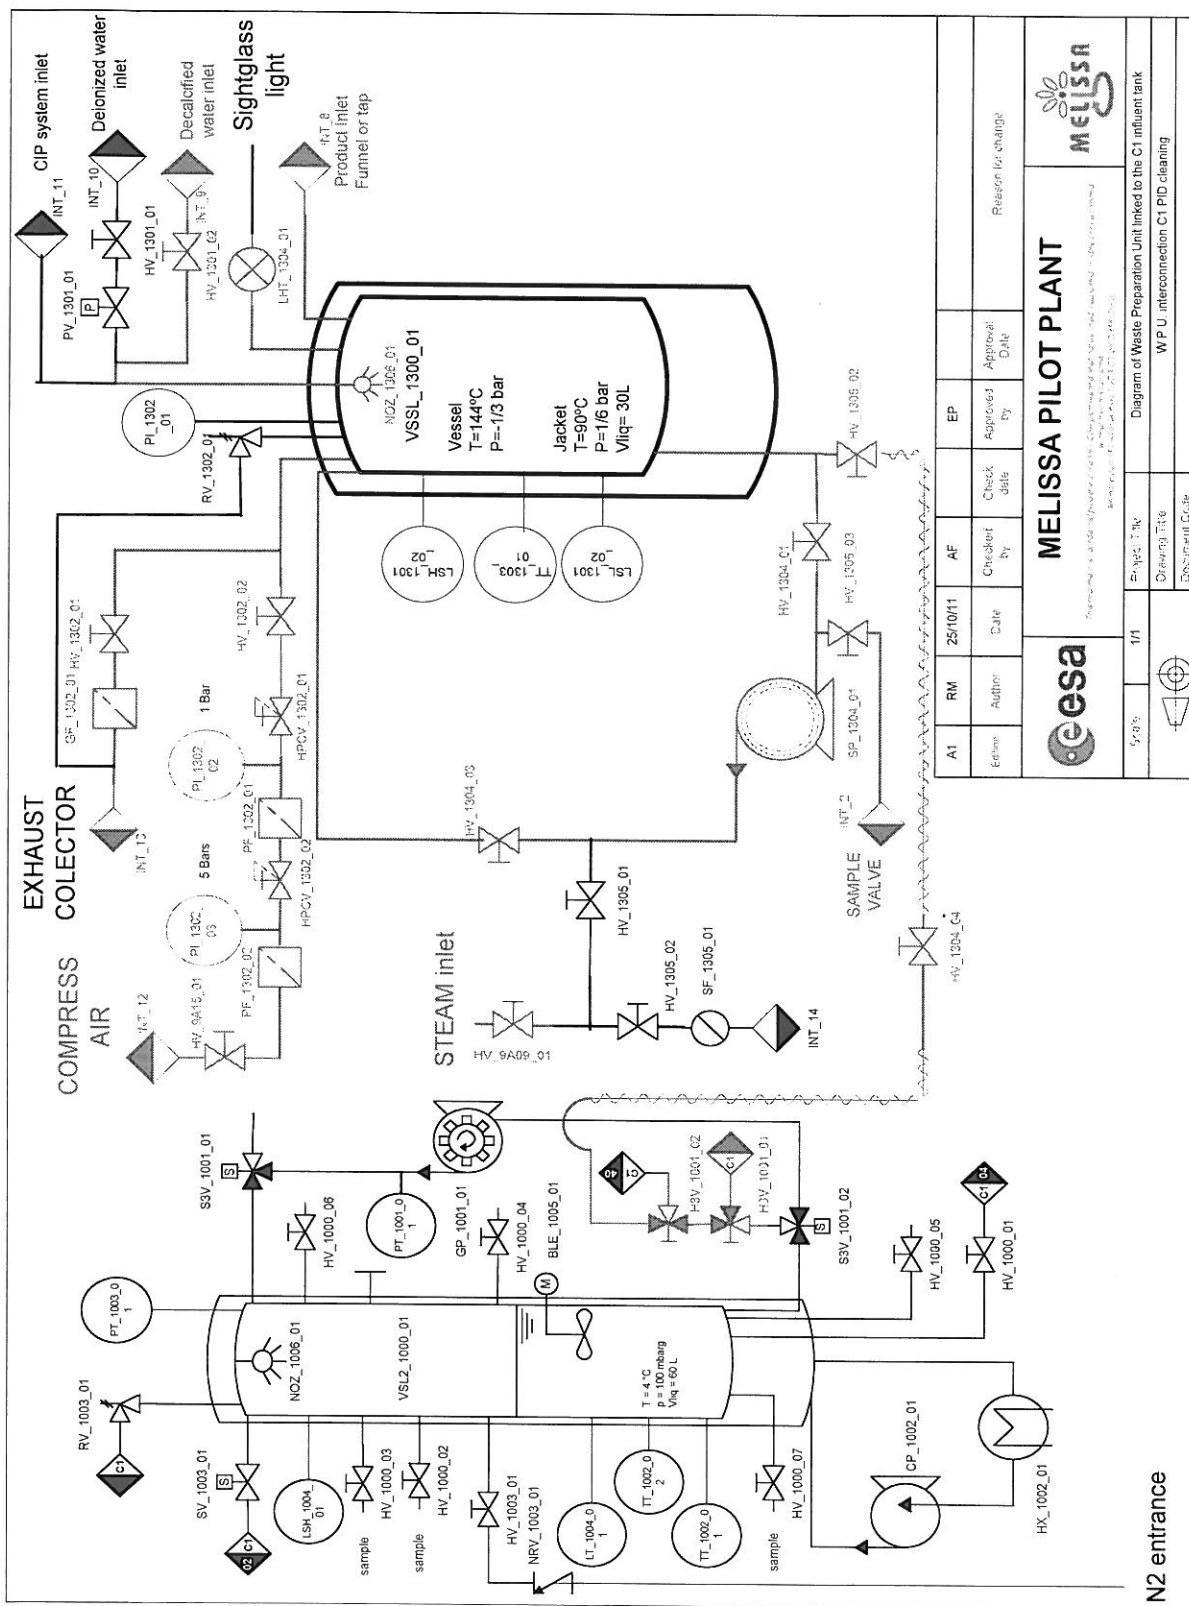

Figure 9. WPU interconnection with C1 cleaning procedure
*The figure 9 describes a P&ID drawing of the elements involved in the procedure. The elements in blue are those implied in the cleaning process.*